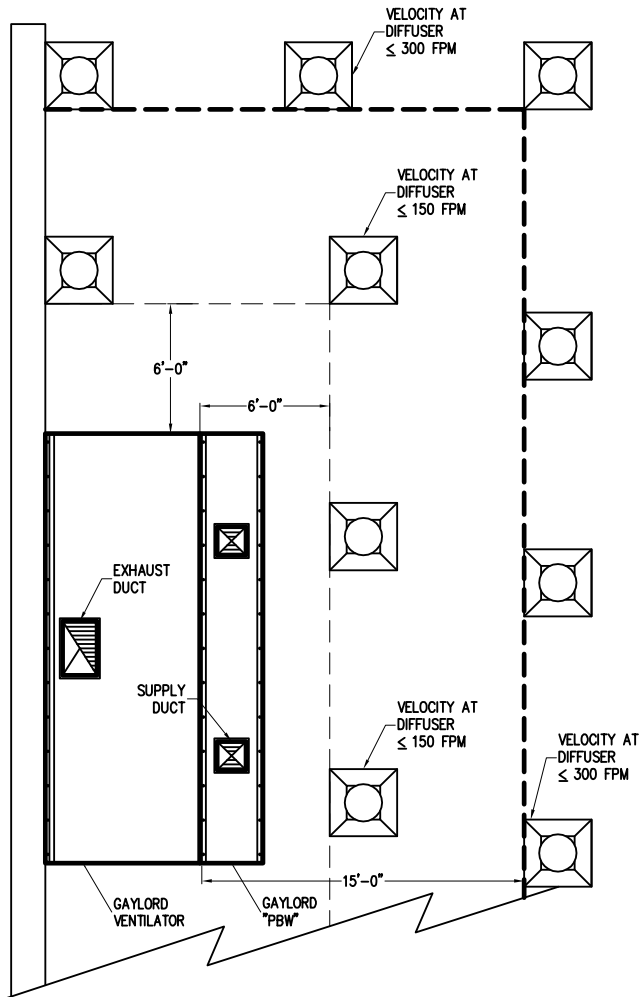

Figure 5-6-1
All Gaylord Ventilators are factory engineered to operate at a specific exhaust volume, CFM (Cubic Feet per Minute), based on, primarily, the type of cooking appliance, and the exact model of the Ventilator. Capture performance is based on two primary functions, 1) the ventilator is exhausting the engineered CFM and 2) the make-up air is being introduced correctly. Make-up air introduced incorrectly will typically result in smoke and heat loss into the kitchen, even if the Ventilator is operating at the engineered CFM. Make-up air is typically brought into the kitchen space through ceiling diffusers or through a combination of Gaylord Make-Up Air Plenum Boxes, Model PBW, (refer to Figure 5-6-1) and ceiling diffusers.
1. Gaylord Plenum Boxes Model PBW, shall be located immediately in front of the Ventilator, a minimum of 18" from the lower lip of the Ventilator to the discharge surface of the Plenum Box. (Refer to Figures 5-6-1 and 5-6-2).
1. Ceiling diffusers shall be at least 15'-0" away from all sides of the Ventilator and the outlet velocity at the diffusers shall not exceed 300 Feet per Minute (FPM) (Refer to Figure 5-6-1).